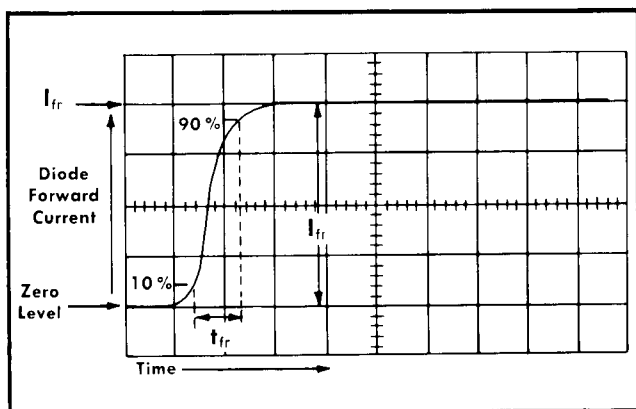

Fig. 2-29. Diode forward recovery switching display.
**Diode Switching Terms (See Figs. 2-29 and 2-30)**
6. Turn the pulse generator on, and set the oscilloscope triggering controls for a display similar to that shown in Fig. 2-29. Use this display to measure the forward-recovery switching characteristics of diodes when the forward switching voltage is known. Proceed to step 7 if  $I_{fr}$  is known.
7. Set the pulse generator output for the known  $I_{fr}$  indication on the display (see Fig. 2-29). Use this display to measure the forward-recovery switching characteristics of diodes when  $I_{fr}$  is known.